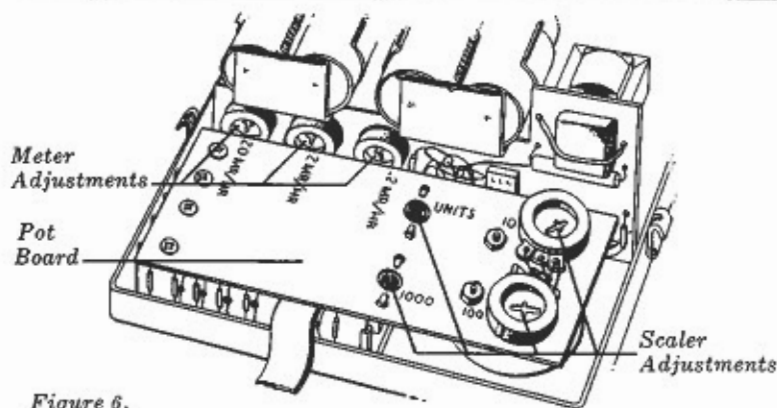

Figure 6.
A gamma ray source of known value in MR/HR may be used to calibrate the Meter. It is desirable to use three different radioactive sources; one source for each range, for the most accurate calibration. Place the source against the side of the probe with the shield closed. Adjust the calibration control until the Meter reads the same intensity plus background intensity and scattering. (See Figure 6.)
5. Adjust control marked "UNITS" on back of panel until all "Unit" lamps are lit. (See Figure 6.) Then back off adjustment until lights just stop counting.
To replace Scaler bulbs, uncover base of bulbs by removing four screws and two nuts holding pot board in place, and carefully tip board back. (See Figure 6.)